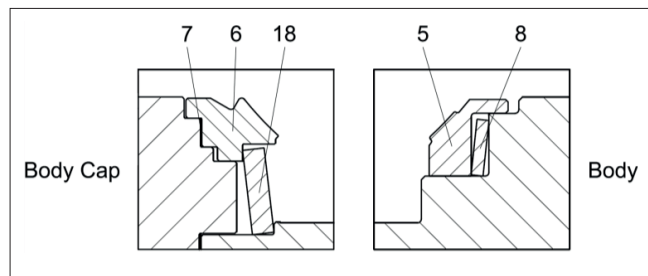

Figure 16. Unidirectional Seat Assembly
- Place the disc spring (8) all the way into the body counter bore, minding its orientation and slide the seat (5) down over it. See Figure 16.